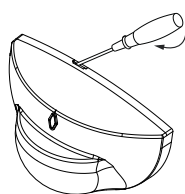

Fig.5
Step1 Remove the cover before you install the product.(as Fig5.)